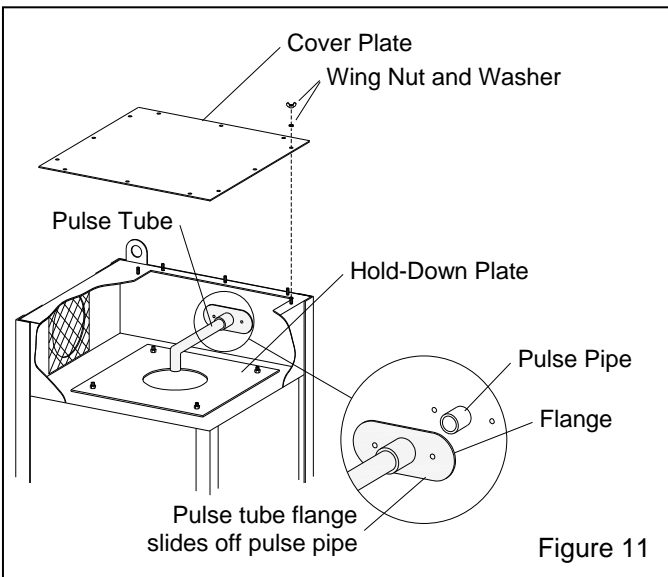

Figure 11
2.12 Install Filter Cartridge, Figures 11 and 12
2.12.2 Remove the two nuts, washers, and cap screws securing the pulse tube flange to the collector and slide the pulse tube off the pulse pipe as shown in the insert in Figure 11.